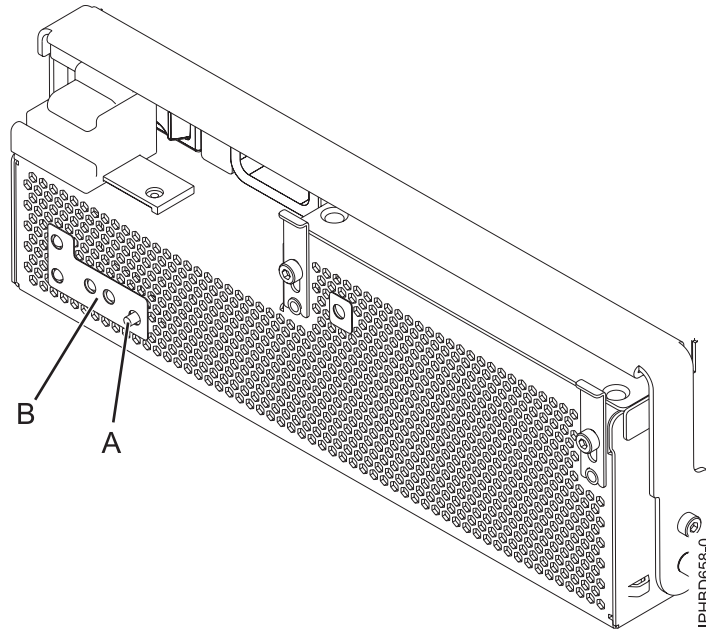
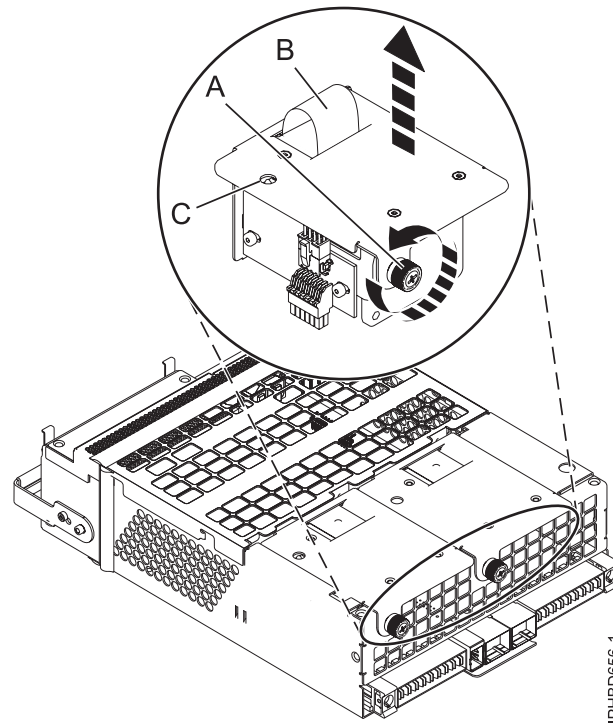

Figure 8. Fan fault LED and fan identify button
Figure 9. Removing a power supply fan
Note: If a fan fails, the amber fan fault LED on the front of the Offline Converter Assembly (OCA) (B), shown in Figure 8 on page 11, is on solid.
- a. Identify the failing fan by pressing the fan identify button (A) shown in Figure 8. An amber left or right fan-fault LED (C) on solid, as shown in Figure 9, indicates the faulty fan.
- b. Loosen the thumbscrew (A) that holds the fan in the power-supply assembly, as shown in Figure 9.
- c. Use the recessed fan handle **(B)** to pull the fan out of the power-supply assembly, as shown in Figure 9 on page 11.